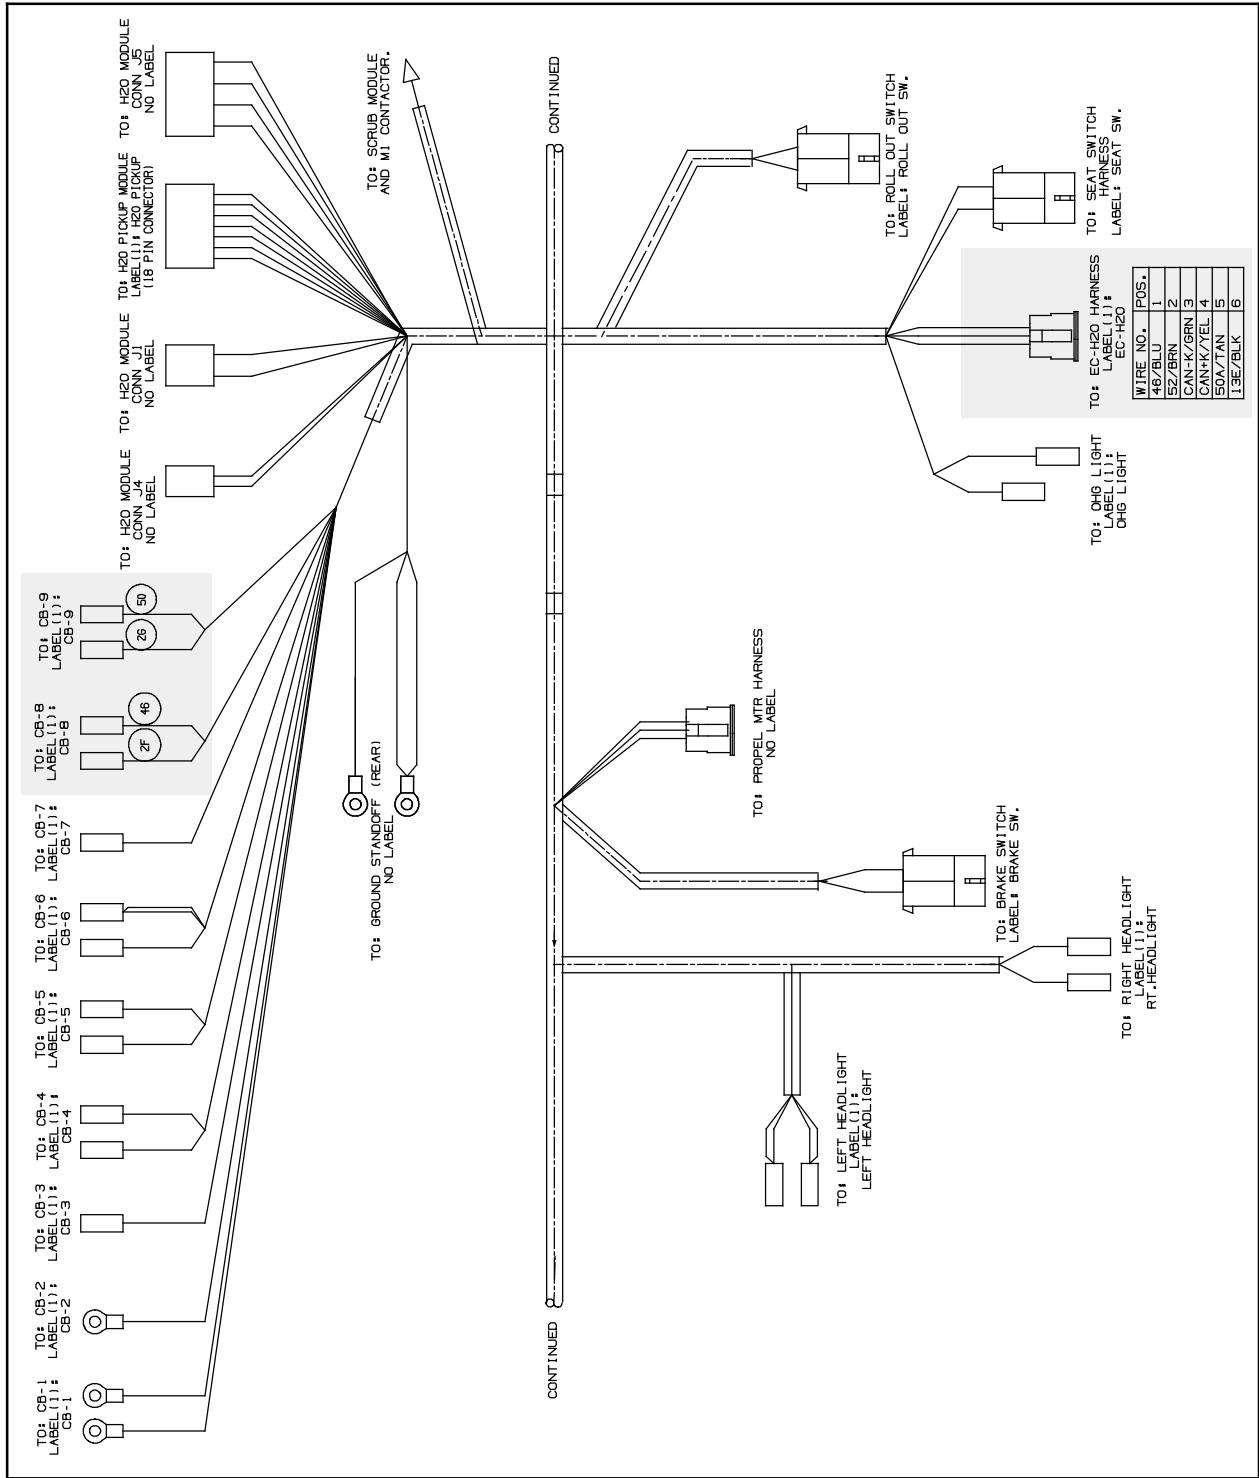

FIG. 23
24. Connect the main wire harness to the ec- H2O pump (28). (Fig. 8 / Fig. 23)
40. Connect the main wire harness to the 2.5- amp circuit breakers (30). (Fig. 21 / Fig. 23)